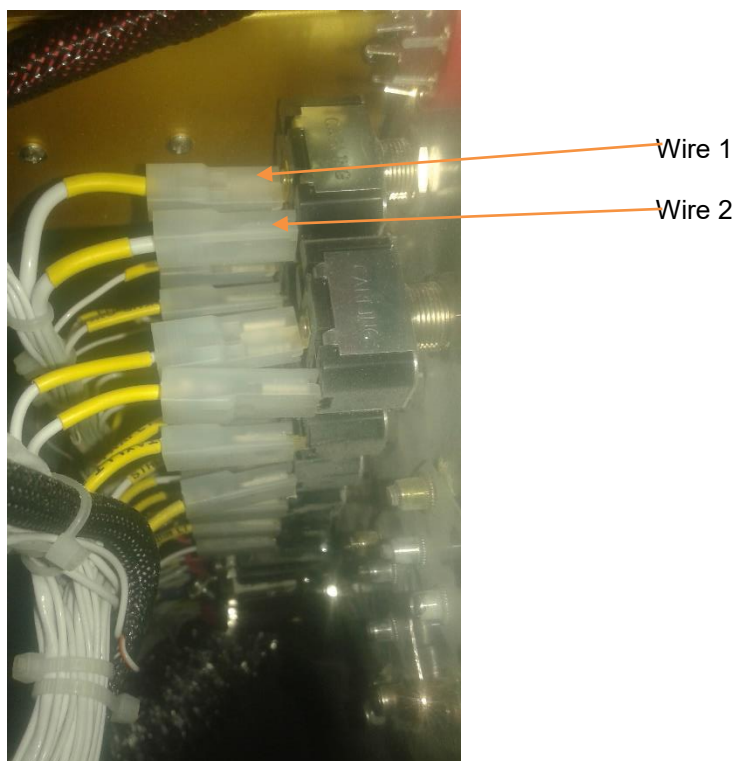

Figure 2
1. With reference to figure 2, if the master switch looks like this master switch, it needs to be replaced.
5. With reference to figure 2, unplug wires 1 & 2 from the switch.
6. Figure 2 has the incorrect installed switch should the aircraft have an external alternator installed.